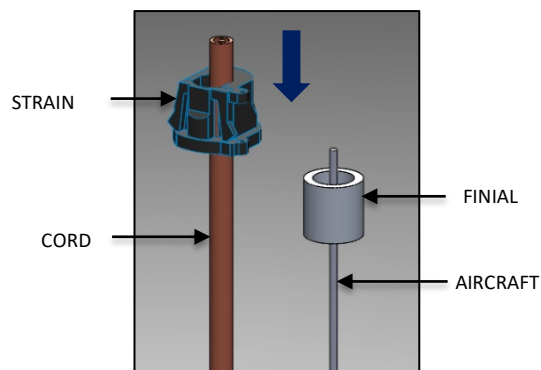

FIG. 27 – STRAIN RELIEF AND FINIAL
16. Pass the FINIAL and the STRAIN RELIEF through the AIRCRAFT CABLE and CORD respectively. Adjust the STRAIN RELIEF as needed to get the desired CORD length as shown in FIG. 27 below.